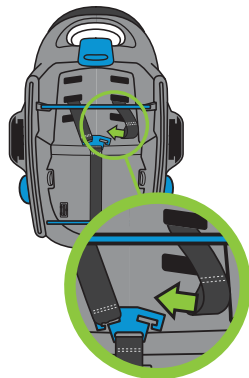

Figure 9
- Hold the silver Metal Harness Plate straight up ensuring there are no twists in the Harness Adjuster Strap, and slide the loop end of each Shoulder Harness Strap through the slot in the Metal Harness Plate, ensuring that each Strap is completely inside the slot as shown in **Figure 9**.